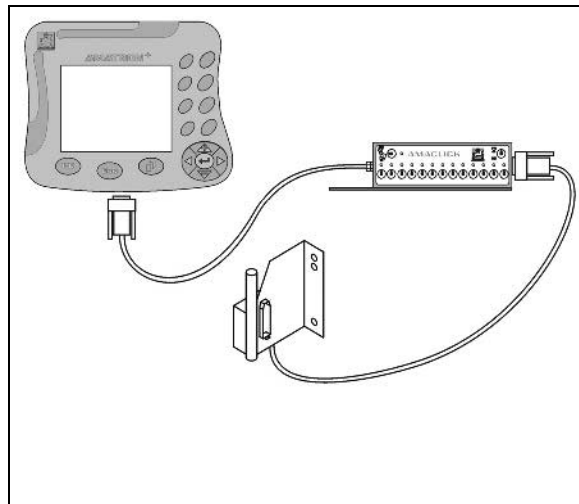

Fig. 95
- without joystick according to Fig. 95